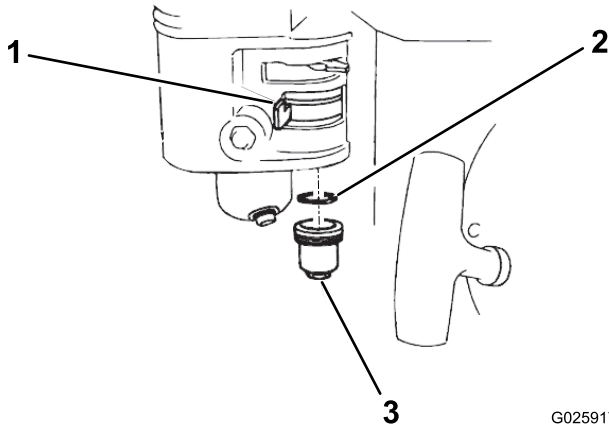

Figure 17
1. Move the fuel-shutoff valve to the OFF position (Figure 17).
2. Remove the fuel sediment cup and O-ring (Figure 17).
5. Place the O-ring in the fuel-shutoff valve and install the sediment cup (Figure 17). Tighten the sediment cup securely.